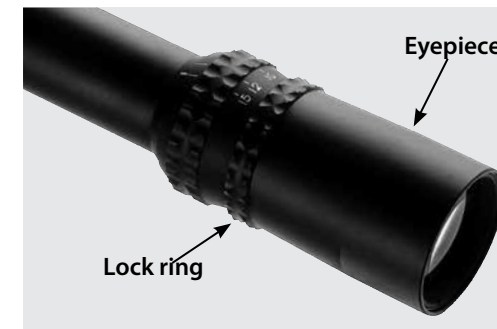

Figure 1:
4. If adjustment is necessary, follow the steps outlined for the type of Nightforce rifle scope you have. Due to the way the human eye focuses, best results are usually obtained by turning the eyepiece inward until the reticle is slightly blurred then moving it outward until sharp focus is obtained. Refer to Figure 1.